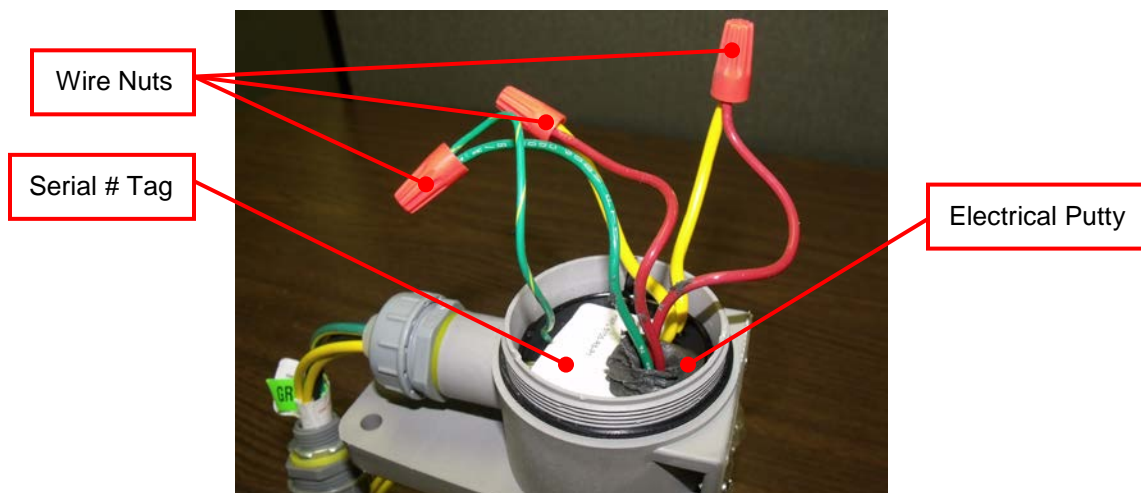

Figure 1: Typical Junction Box
- On HX-Series heaters noted to the left, the serial number tag is located inside the heater's electrical junction box (Ref: Figure 1).